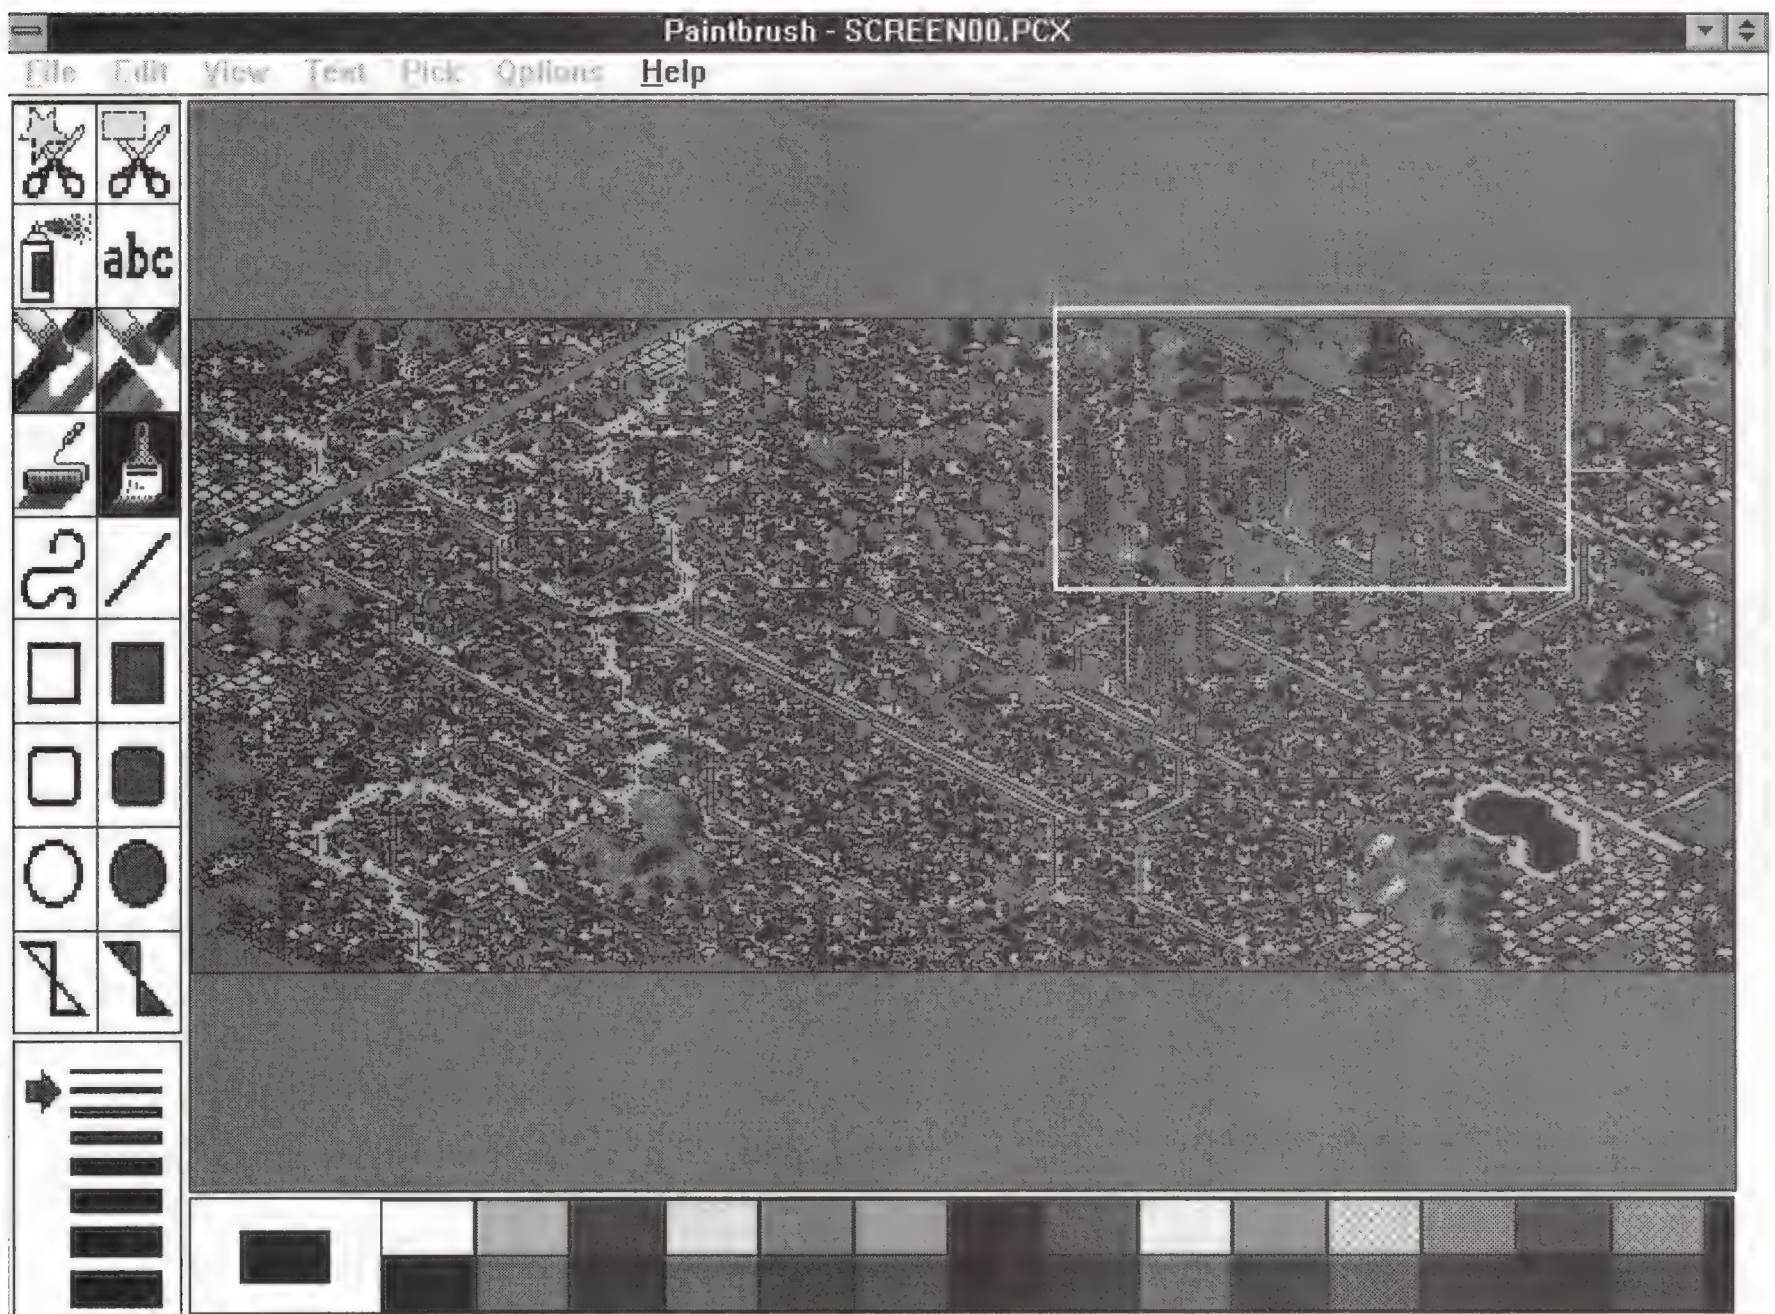

Figure 2.13 Cropping a portion of the map for printing in Paintbrush
- If you want to crop, or cut out only a small portion of the map for printing, click the Partial radio button and then click OK. After a few seconds, a complete miniaturized picture of the map will appear on screen. To select the portion of the map you wish printed, simply click and drag the mouse over the desired area. A ghosted rectangle will appear superimposed on the map, showing your print selection. Release the mouse button, and Paintbrush will commence printing out your selection. If you make a mistake, you can cancel your selection at any time by clicking on the Cancel button. Figure 2.13 shows this being done.